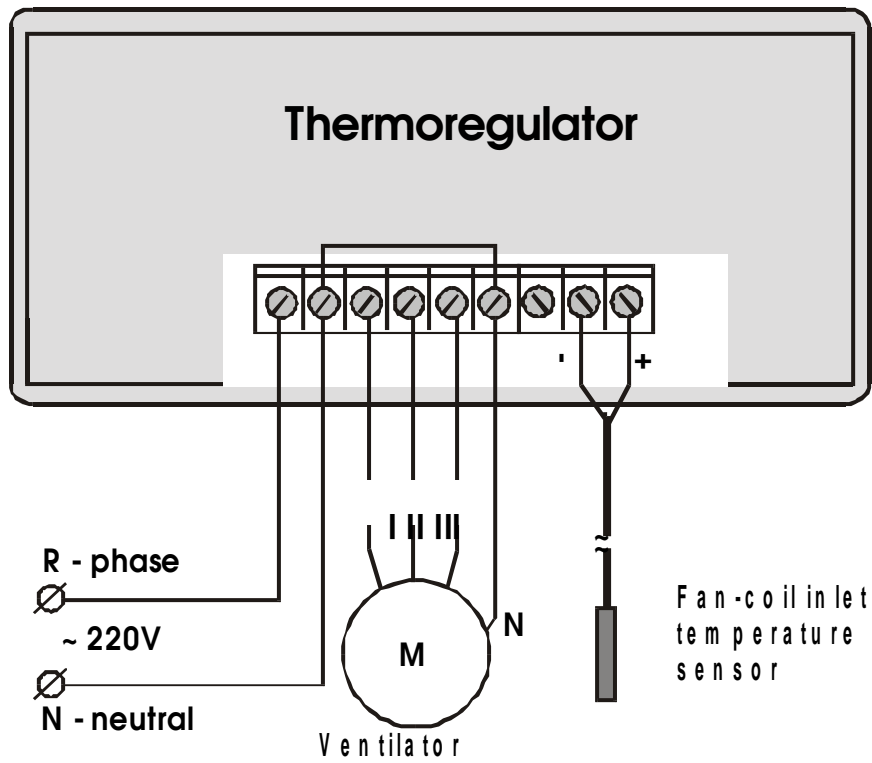

Figure 1
- Do the wiring according to the scheme shown on Figure 1.